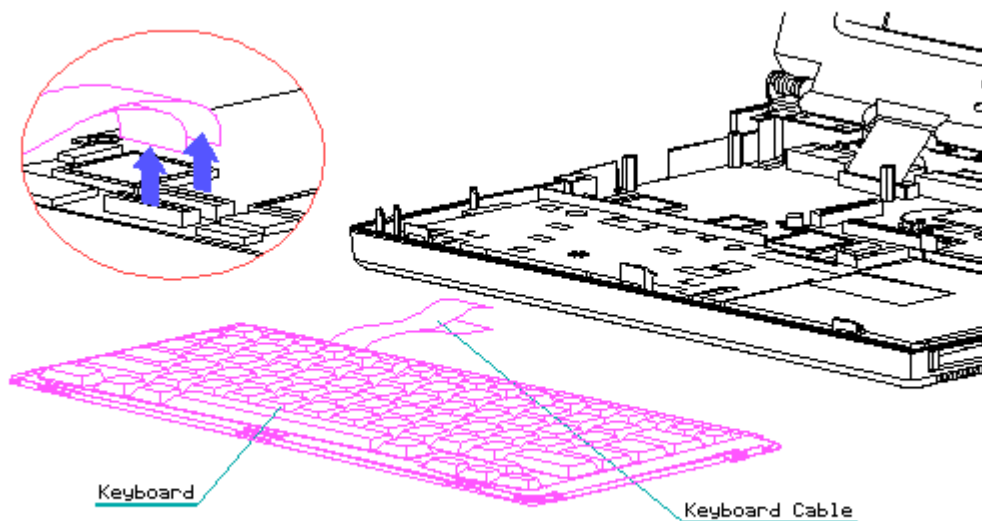

Figure 2-10. Removing the Keyboard
4. Using the case utility tool, carefully lift up on the ZIF connector to release the ZIF cables (Figure 2-10).
NOTE: The battery shield is located under the keyboard. You do not need to remove this part unless you are replacing the system chassis. To remove the battery shield, lift it out of the computer base (Figure 2-10).